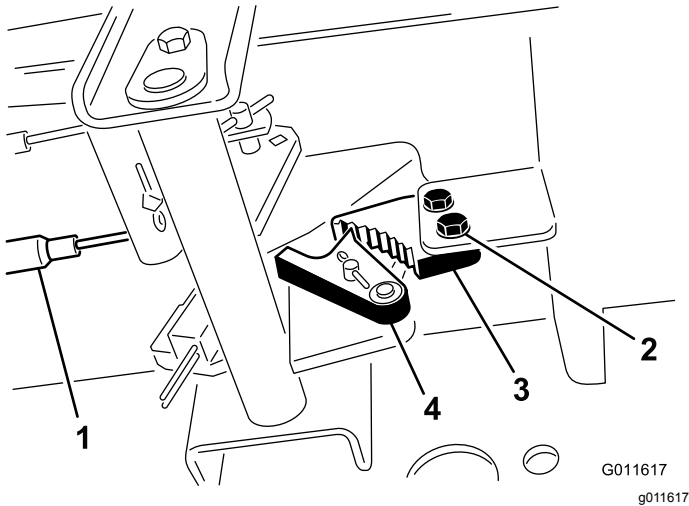

Figure 98
1. Loosen the 2 screws securing the parking-brake pawl to the frame (Figure 98).
2. Press the parking-brake pedal forward until the brake detent completely engages on the brake pawl (Figure 98).